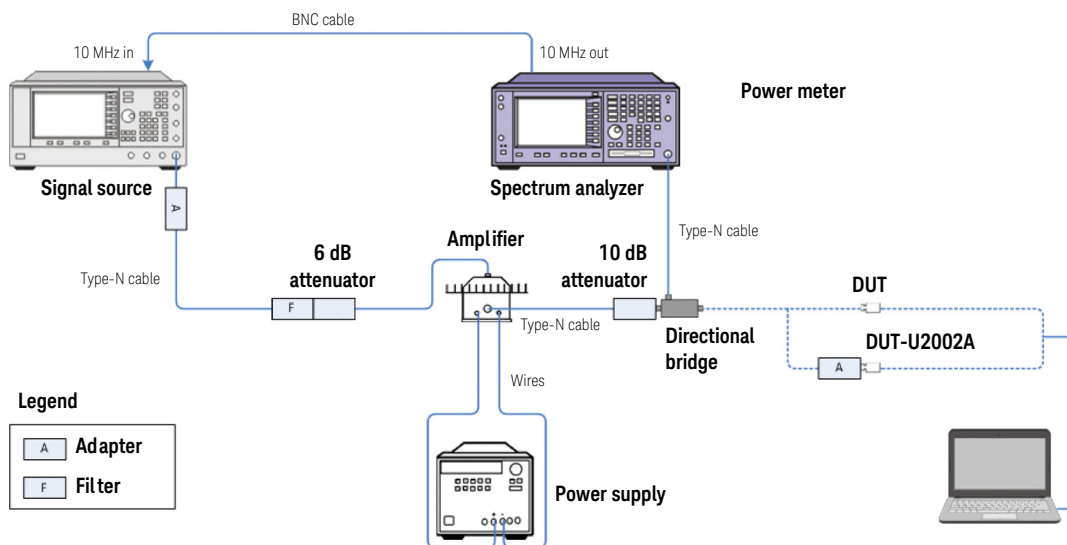
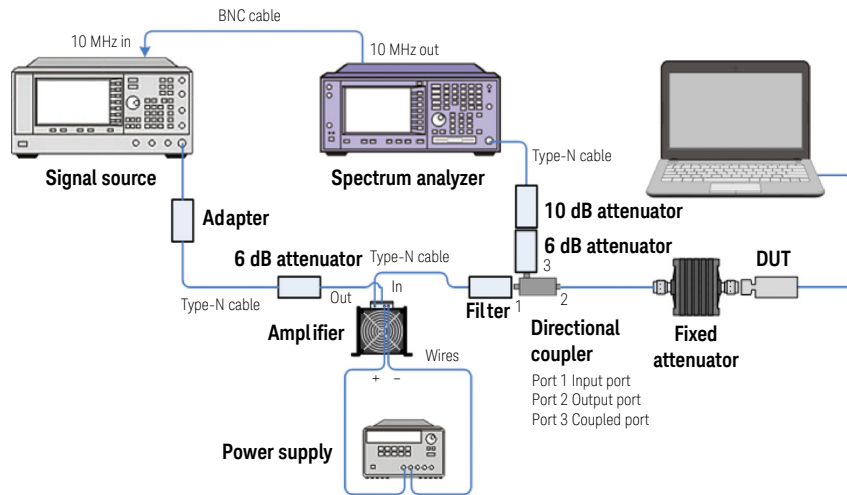
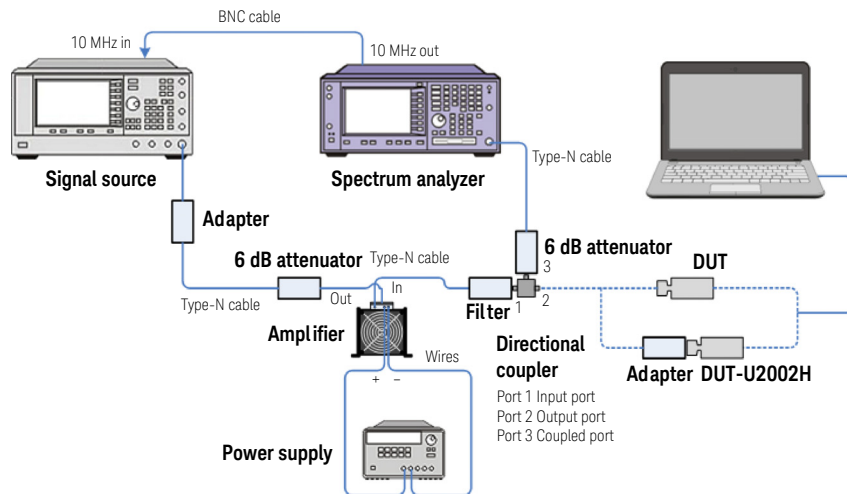

Figure 3-7 Sensor accuracy measurement setup for U200xA
Figure 3-8 Sensor accuracy measurement setup for U200xB
Figure 3-9 Sensor accuracy measurement setup for U200xH
- 4 Disconnect the standard power sensor from test port and connect the standard power sensor with the DUT. Connect the equipment as shown in **Figure 3-7** (U200xA Series), **Figure 3-8** (U200xB Series), and **Figure 3-9** (U200xH Series) depending on sensor models before turning on the power supply output.